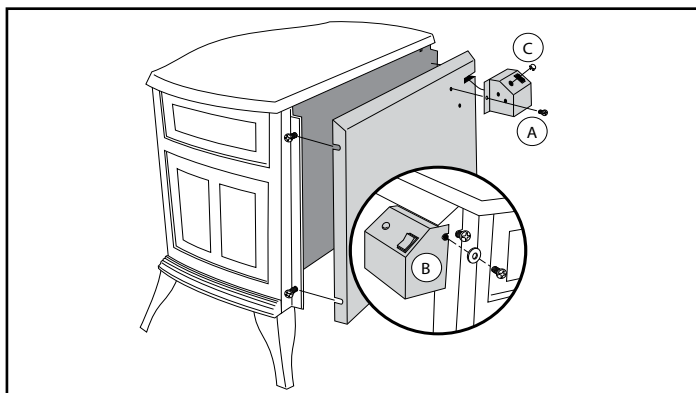

**Figure 1** - Attach the fan rheostat.
It is easiest to install the fan before the stove is connected to the gas supply line. Compare the contents of the fan kit with the list above and Figure 1 to confirm that you have all of the parts.
3. The rheostat control switch attaches to the left side of the valve bracket at the front of the stove. (Figure 1)